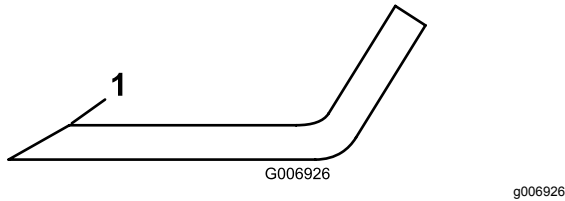

Figure 97
5. Inspect the cutting edges of all blades. Sharpen the cutting edges if they are dull or nicked. Sharpen only the top of the cutting edge and maintain the original cutting angle to make sure that it is sharp (Figure 97).
6. If dull or nicked, sharpen only the top cutting edge while maintaining the original cutting angle (Figure 97).